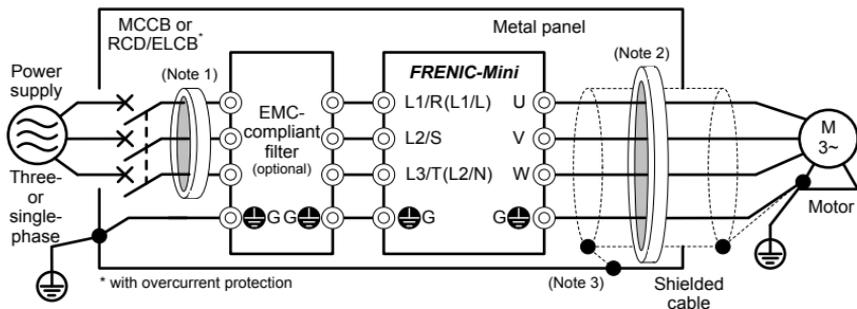

Figure 11.4 Installing the Inverter with EMC-compliant Filter into a Metal Panel
- If noise from the inverter exceeds the permissible level, enclose the inverter and its peripherals within a metal panel as shown in Figure 11.4.